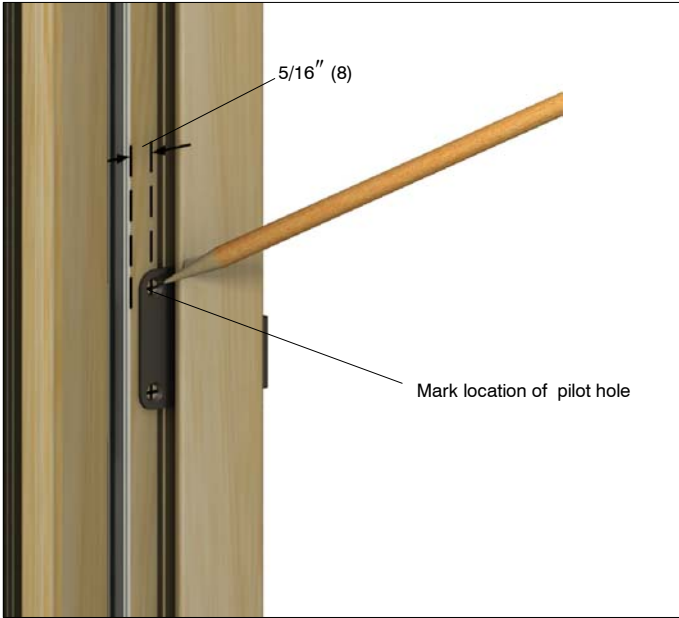

Figure 4
- Place stop back on side jamb (head jamb for awnings) and slide butt hinge onto the jamb with the two holes on the hinge centered on the pencil mark on the jamb. See figure 4. Drill 1/8" pilot holes at each screw location and install #7x7/8" screws. See figure 4. Remove stop and install the third screw. Repeat procedure for each hinge.